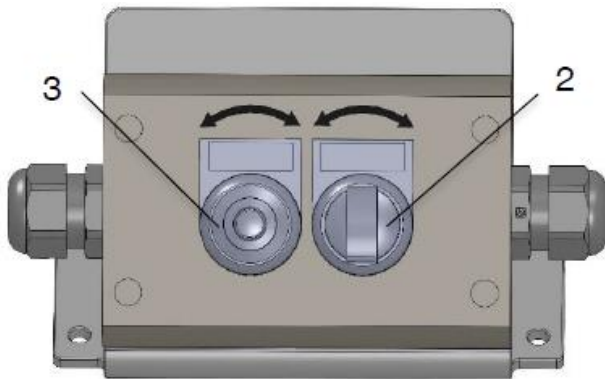

Fig. 12 Speed control/ON-OFF
To increase the speed, turn the potentiometer (3) clockwise. To decrease the speed, turn the potentiometer (3) anti-clockwise. You can adjust the speed infinitely between "0" and "10" (Fig. 12).